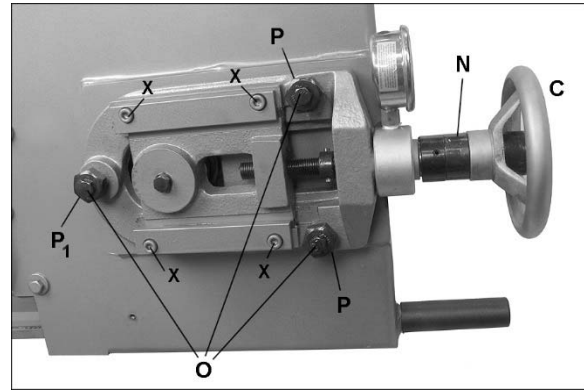

Figure 7-4: blade tension and tracking
Refer to Figure 7-4.
Blade tension has been set by manufacturer at approximately 1800 kg/cm2 (25,000 psi) for the supplied blade. Turn handwheel (C, Figure 7-4) clockwise; if collar (N) slips out of position, then blade is properly tensioned. Continue turning handwheel until collar re-engages. NOTE: Simply turn handwheel, do not press on it.
4. Loosen center locking screws (O, Figure 7-4) in all three hex adjustment screws (P) on tensioning mechanism.